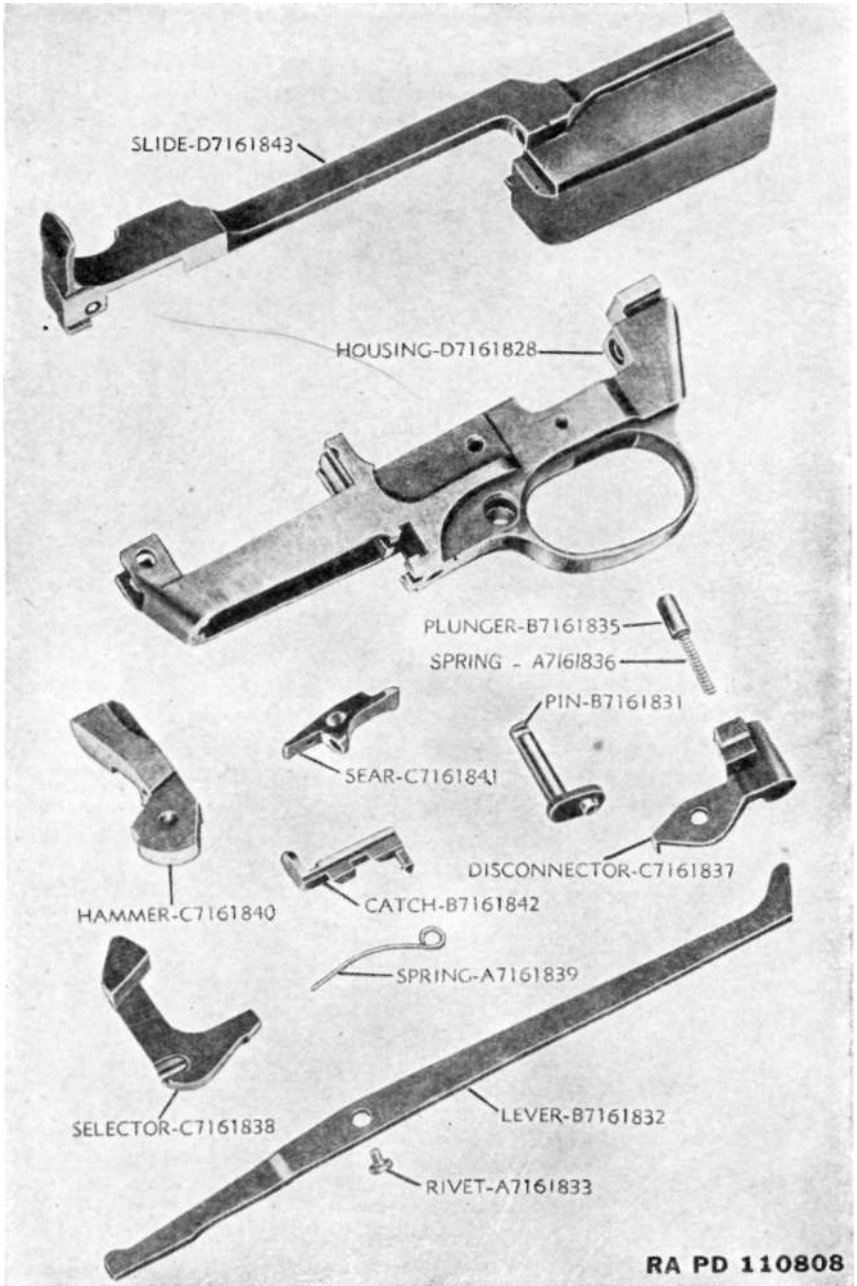

Figure 5. Operating group parts changed and added for use on carbines cal. .30 M2 and M3.
(2) Description of changed parts and their relative functioning are as follows (fig. 5):